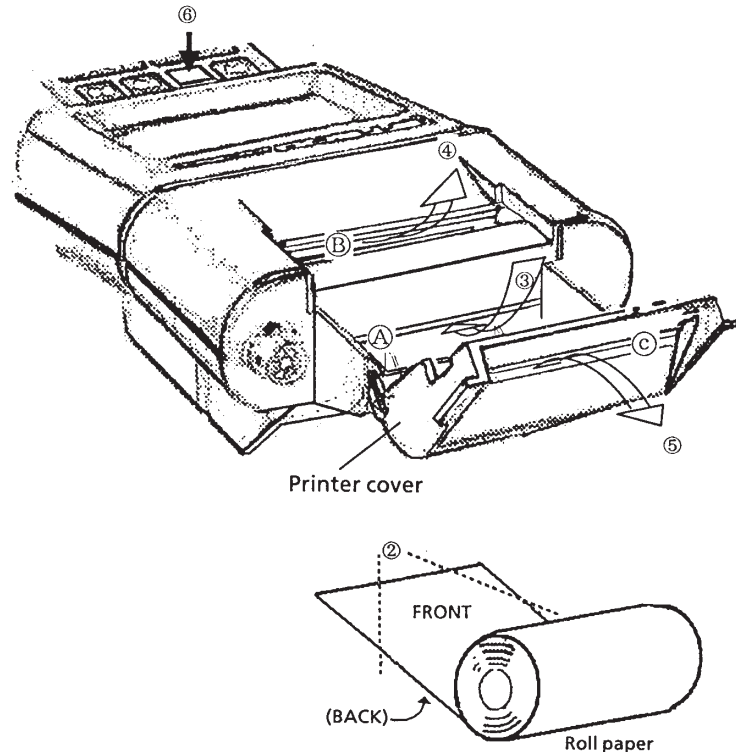

Figure 6.2 Loading Roll Paper
- (1) Open the cover.
- (2) Cut the end of the roll paper as shown.
- (3) Insert the cut end of the roll paper into part A. The roll paper has its face and back. Insert the roll paper to face as shown in Figure 6.2.
- (4) Push in the roll paper until its end comes out of part B.